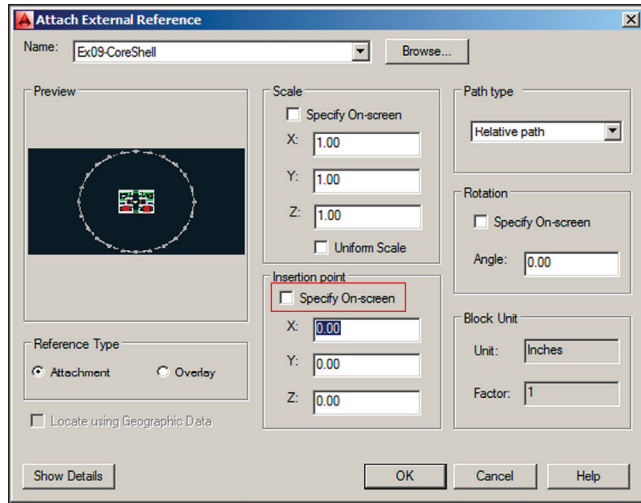

FIGURE 9.22 Attaching an external reference
4. In the Attach External Reference dialog box that appears, deselect Specify On-Screen in the Insertion Point area (see Figure 9.22). Click OK.